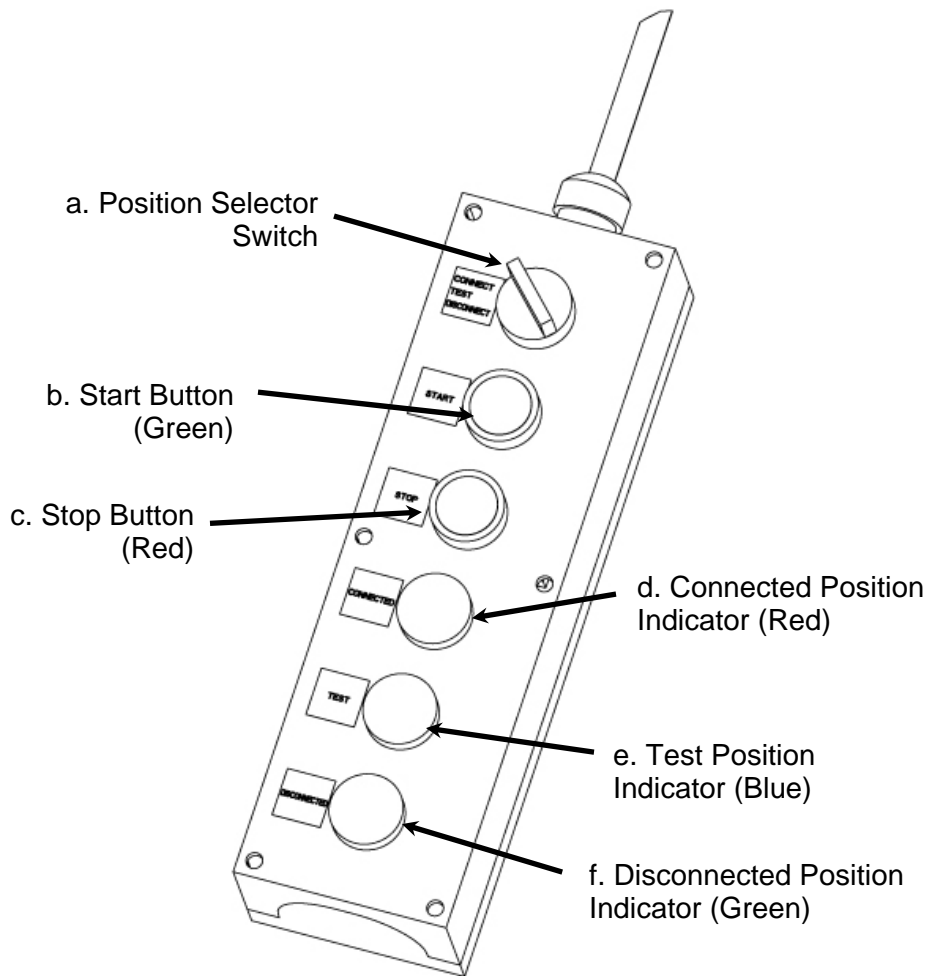

Fig. 3.1
3. Select the desired position using the Position Selector Switch. See Fig 3.1, item a.